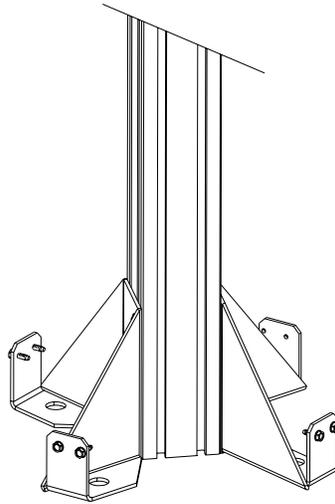

Figure 6
3. Position column assemblies onto the floor centered on the baseline measurements made earlier. See Figure 6. Base Plates will generally be 97 inches apart as measured between the inner holes. Refer to Figure 5 on page 11 for layout detail. Using a marker, mark the hole locations for the 4 mounting bolts with each column.